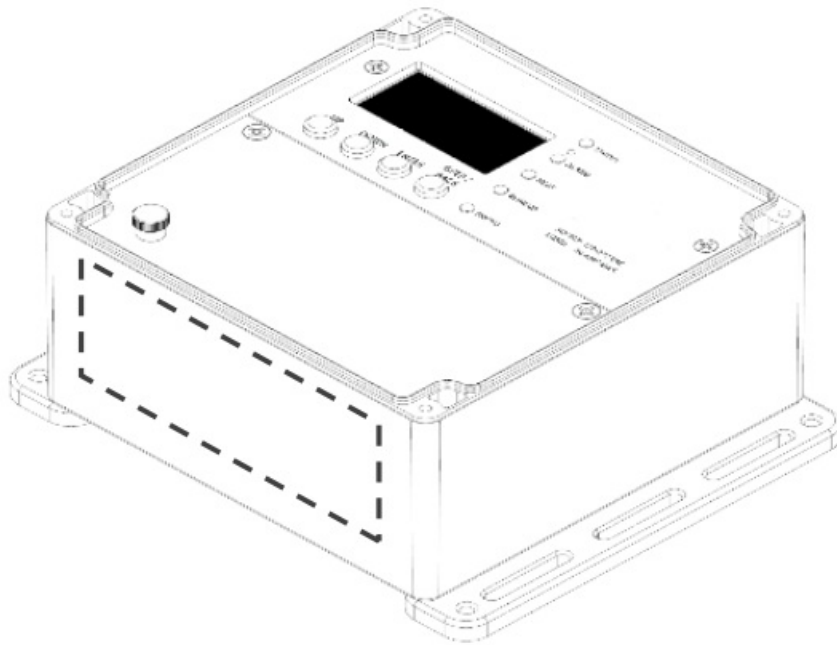

Figure 1: Controller showing the bottom side where to drill wiring holes.
2. Remove the white wiring cover and replace the clear cover to ensure you do not drill into any components. Drill holes on the bottom face of the controller inside of the dashed line shown in Figure 1 and remove all plastic shavings. Do not drill holes within 0.5" of the edge of the enclosure. Mount your conduit and cable fittings.